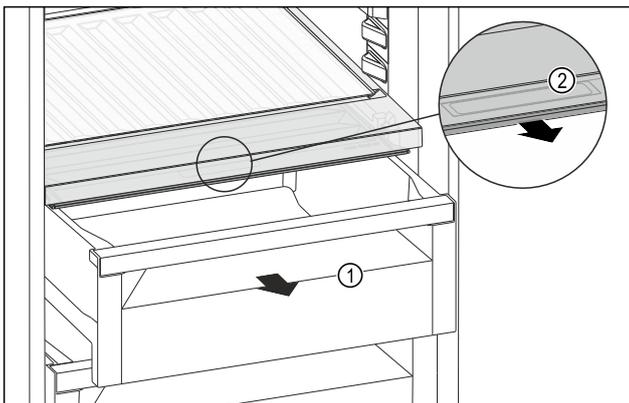

Fig. 128
- ▶ Pull out the drawer Fig. 128 (1).
- ▶ Grasp the recessed grip Fig. 128 (2) on the compartment lid and pull the compartment lid forwards at the same time.